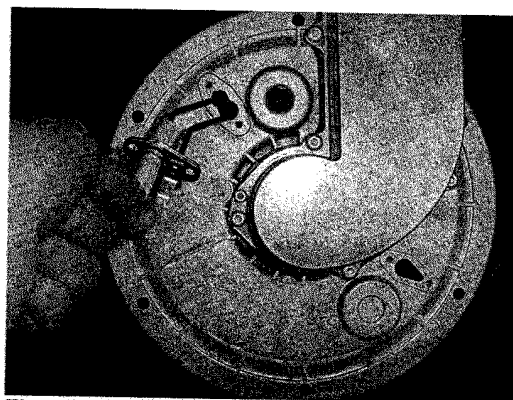

Figure 5 – Inserting the Igniter into the Plate
2. Insert the igniter into the plate. See Figure 5.